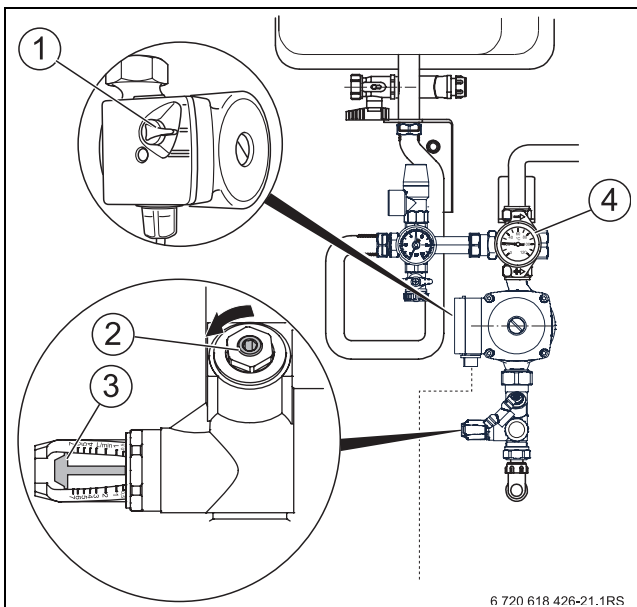

Fig. 25 Adjusting the flow rate
- ▶ To pre-set the flow rate: adjust the solar circuit pump's pump switch (→ Fig. 25, [1]) so that the required flow rate is reached with as low a speed level as possible.